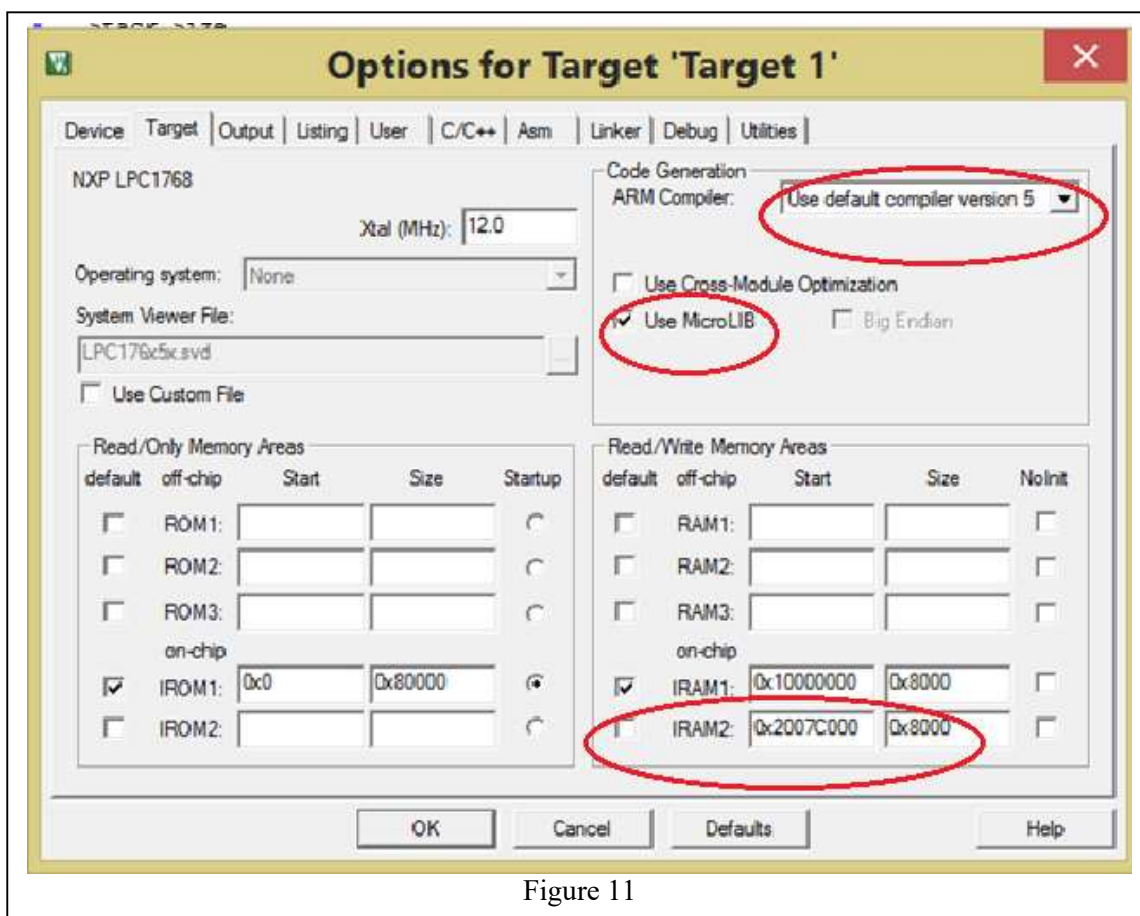

Figure 11
11. Perform the following changes as shown in Figure 11. Under Target, ARM Compiler> **Use default compiler version 5**. Moreover, check> **Use Micro LIB**, and uncheck> **IRAM2**.